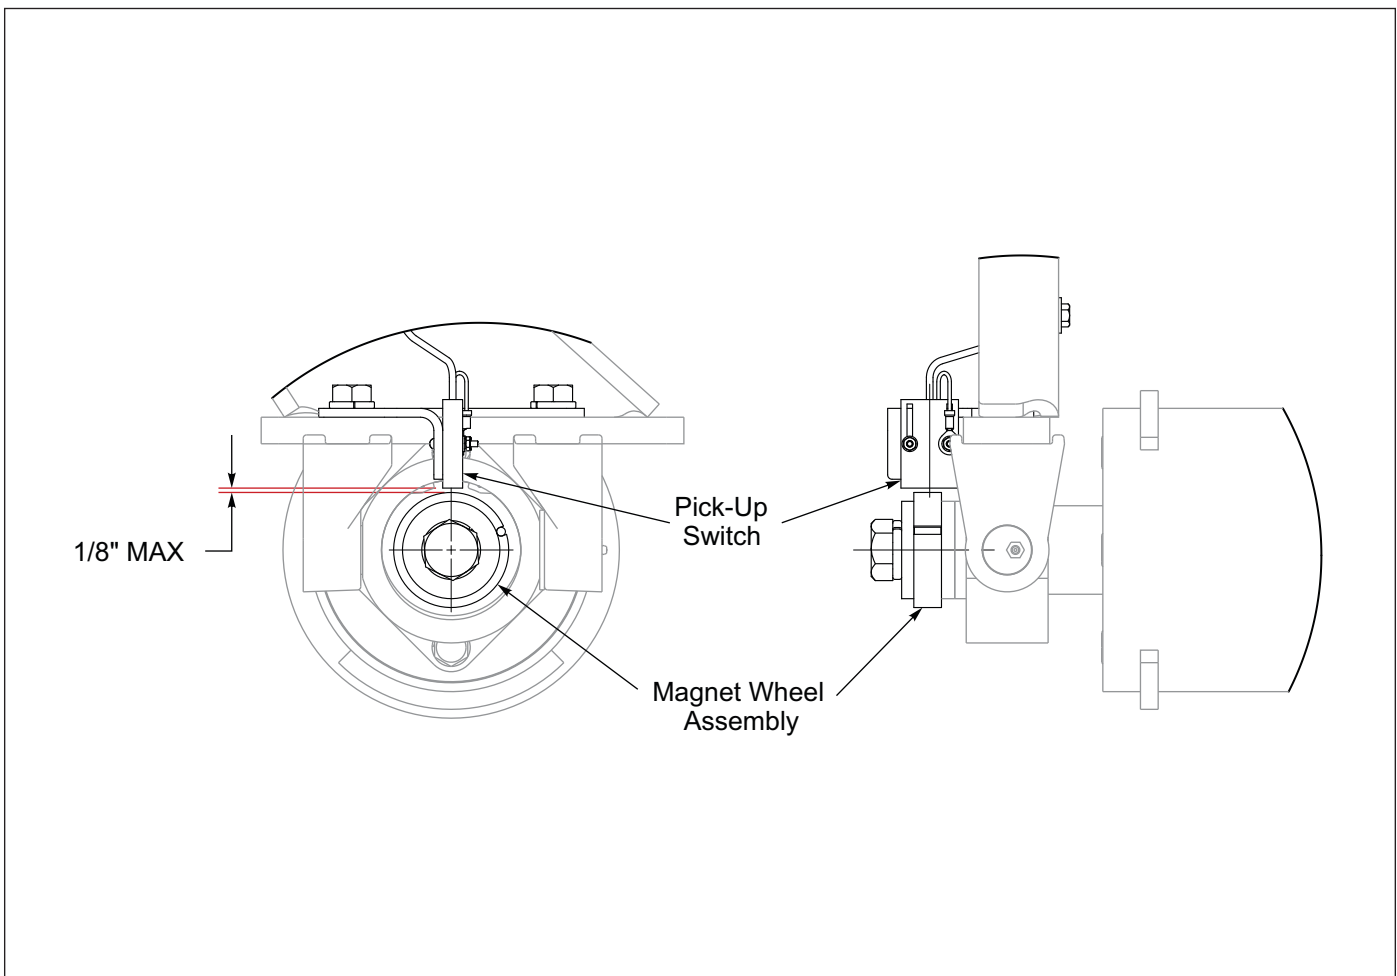

Figure 2-26: Pick-Up Switch Side View
5. Adjust the Acre Meter Switch so the center line of Magnet Wheel and Pick-Up Switch are horizontally and vertically aligned with a maximum 1/8" between Magnet Wheel and Pick-Up Switch. Now firmly tighten all screws. See **Figure 2-26**.